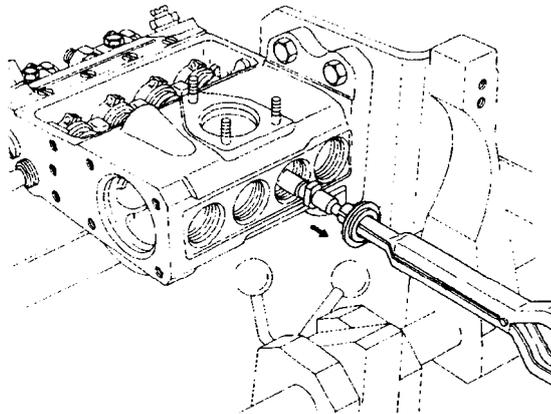

Figure 71 Removing the Spring Seats and Plungers
- z. Remove the lower spring seats and plungers through the holes in the base of the pump using the inserter (Table 3, Serial 28) (Figure 71).